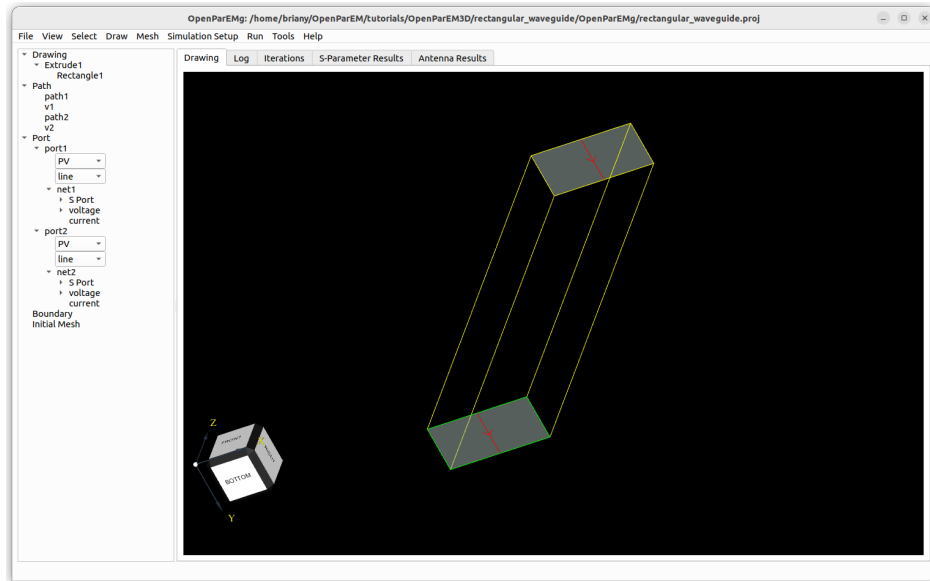

Figure 3: Screen shot of the 100 mm long rectangular waveguide with ports 1 and 2 added.
- Rotate the rectangular waveguide to bring the other end to the front, then repeat the selection of the face and creation of a port along with the drawing of a voltage integration line. After the creation of the second port, the rectangular waveguide looks like that of Fig. 3.